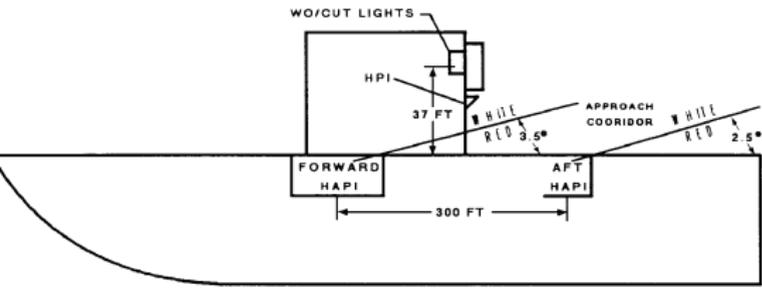

Figure 6-10. Horizontal Approach Path Indicator Vertical Presentation, Typical Installation
6.5.2.2 Horizontal Approach Path Indicator. The two HAPI lights are pitch and roll stabilized and mounted in the port catwalk. As illustrated in Figure 6-10, each HAPI provides a two-color display that is a steady white light or red light depending on whether the approaching pilot is above or below the basic angle setting of the units. The pilot will maintain a proper approach within the prescribed corridor if the forward light is red and the aft light is white. If the pilot sees red over red, the aircraft is below the required approach corridor. If the pilot sees white over white, the aircraft is above the required approach corridor.